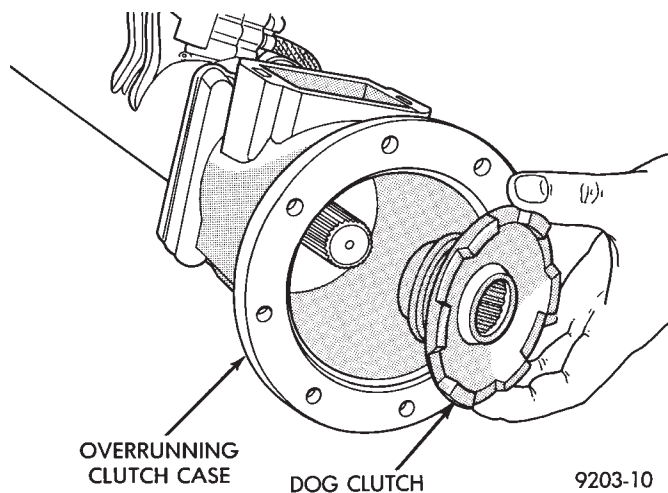

Fig. 15 Dog Clutch Removal
(13) Slide dog-clutch off of the shaft (Fig. 15).
(14) Clean and inspect all parts. Replace worn or damaged parts.